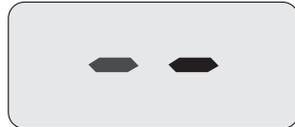
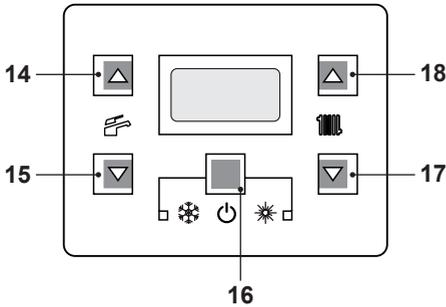

Fig. 7.9
Fig. 7.10
- Electrically power the boiler by switching on the double pole isolation switch. The LCD will display, the  symbol (Fig. 7.9).
- Press the 16 key for 2 seconds until both  and  symbols appear on the display Fig. 7.10.
- Switch off the boiler by pressing the 16 (Fig. 7.10) key for 2 seconds until the and symbols appear on the LCD display (Fig. 7.9).
- Press the 16 key for 2 seconds until both and symbols appear on the display Fig. 7.10.
Press the reset key on the boiler control panel 16 (Fig. 7.10) to reset its functioning.